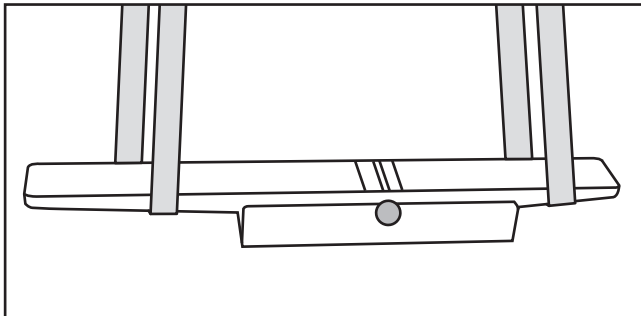

Figure 11. Using lifting straps to lift jointer assembly.
1. Secure table locks to prevent table movement during lifting, wrap lifting straps around infeed and outfeed table, as illustrated in **Figure 11**, then attach lifting strap ends to forklift forks, a hoist, or other powered lifting equipment.